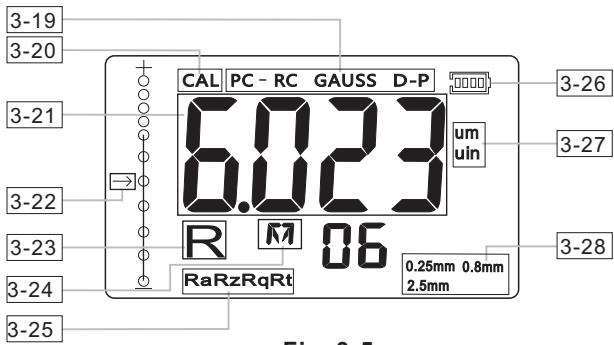

Fig. 3-5
7.2.1 Just depressing the key **[FAC]** and not releasing it till 'FAC' on the Display. It is about 16 seconds from starting depressing key **[FAC]**. This state is also marked by 'CAL', please see the Fig. 3-5.